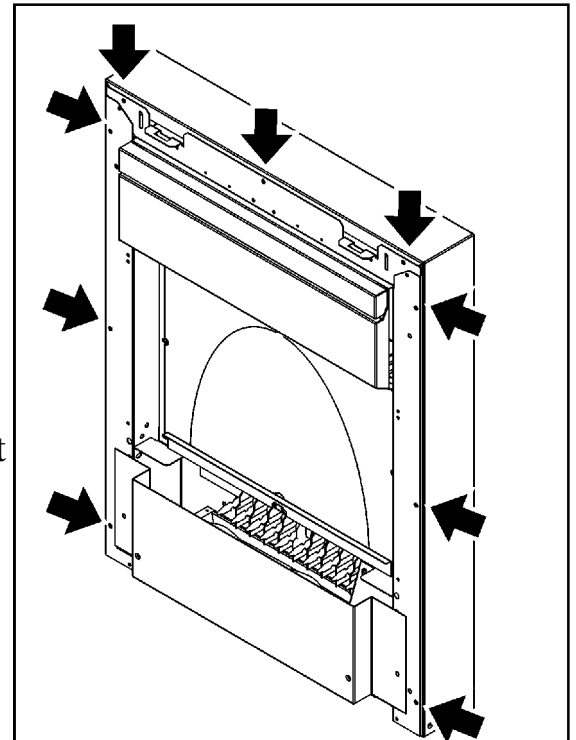

Figure 7. Fitting the spacer frame to the Envy and Twilight heater
**Twilight model** - The spacer frame will need to be fitted to the heater at this point using the nine black screws provided (See figure 7).